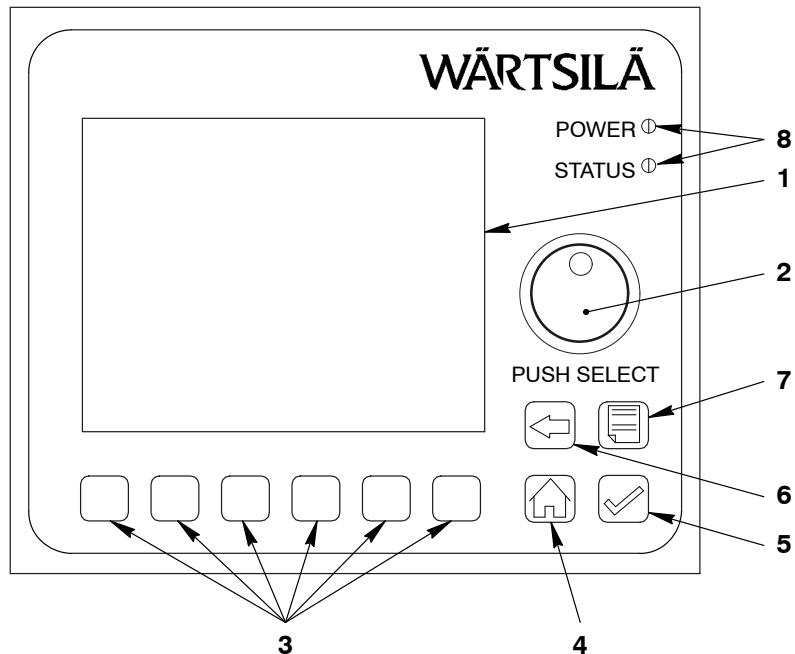

Fig. 2: LDU-20
The LDU-20 is a multi-purpose module that has an LCD color display (1, Fig. 2), ten multi-function buttons (3) and a rotary button (2). You can also push the rotary button to select a function.
- 2) To get/accept control to/from a different location, select the related on-screen button, then push the CHECK  button (see Fig. 2).